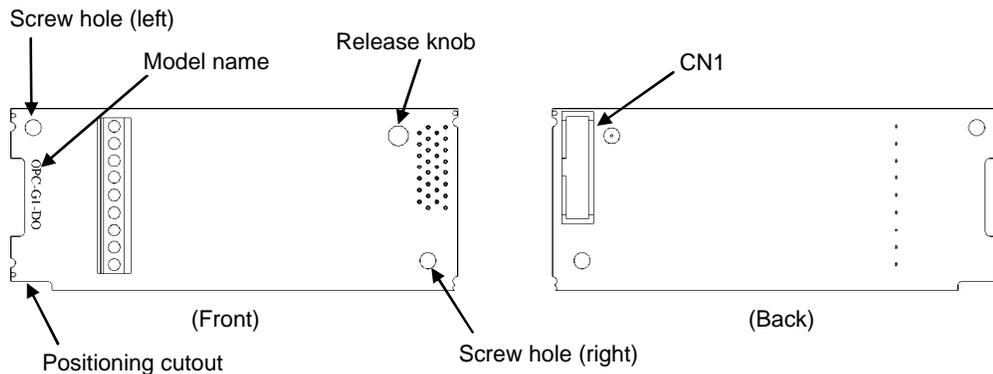

Figure 1.2 Name of Parts on Digital Output Interface Card (OPC-G1-DO)
- Digital output interface card: "OPC-G1-DO" (See Figure 1.2.)